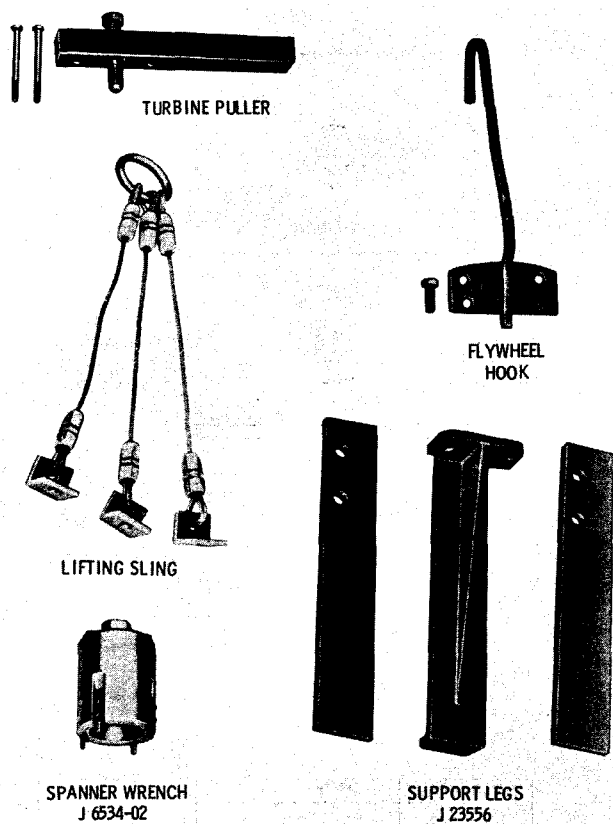

Fig. 4-1. Special tool group
**a. Tools.** A minimum number of special and improvised tools are required for overhaul procedures (fig. 4-1 through 4-5). Tools having numbers with a J prefix may be ordered from Service Tool Division, Kent-Moore Corp., Warren, Michigan. If spanner wrench J 6534-02 is fabricated, refer to figure 4-2 for specifications. Refer to the special tools chart at the end of this section for a list of tools and references to their uses. The special tools and